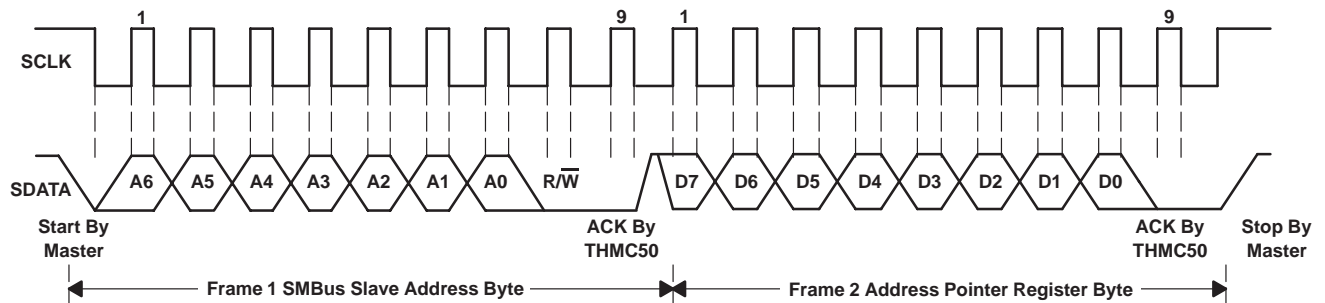

Figure 4. SMBus Timing Diagram for Send Byte Format
2. If the internal address register value is unknown, write to the THMC50 with the SMBus interface address byte, followed by the internal address register byte (see Figure 4). Next, restart the serial communication with a read consisting of the SMBus interface address byte, followed by the data byte read from the THMC50.